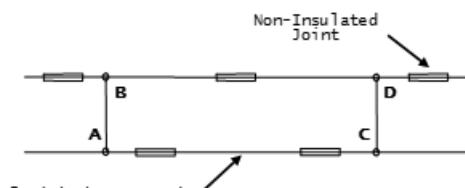

Figure 5 - BONDING
**1.606** Method of applying temporary rail jumpers in electrified territory when rail is to be removed from track. (See Figure 5)